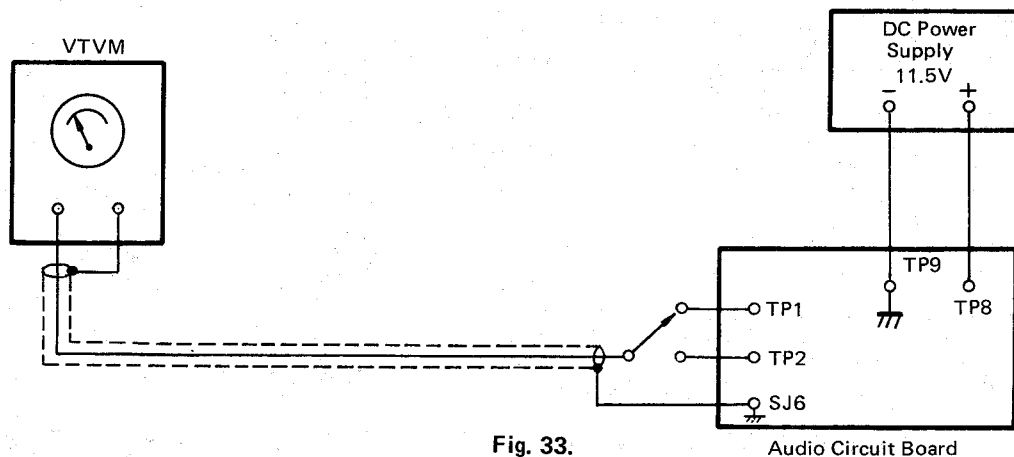

Fig. 33.
1. Set up Voltmeter and DC power supply as shown in Fig. 33.